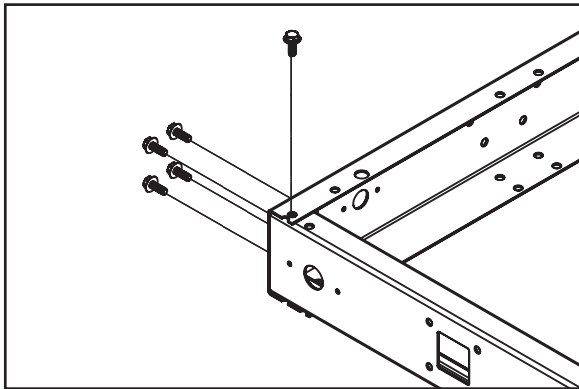

Fig. 7
Step 11: Bolt the other corner. Using five of the M10 x 30mm bolts (#1) and M10 Nuts (#2), bolt the Short Rail Beam (#5) in the previous step and the End Crossbeam (#3) together to form the next corner of the frame (Fig. 7). Do not tighten the bolts.